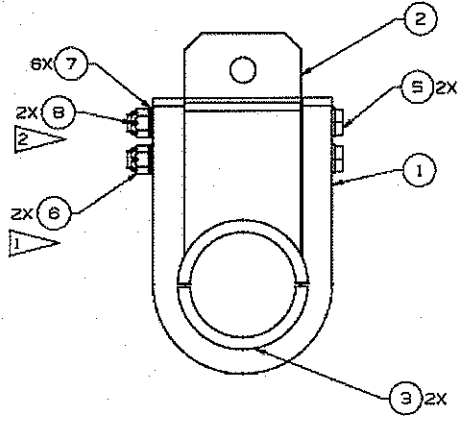

Figure 10
12. Using Figure 10 as a reference, disassemble the U-Hook Assembly, SEG38117120-301. Remove the cotter pin, MS24665-302, item 8 inserted in each castellated nut, AN310C8, Item 6. Remove the fastener, NAS1958C90D, item 5, castellated nut, AN310C8, item 6 and washer, NAS1149E0863R, item 7. Do not allow the U-hook Bushings, SDG38117123-001, item 3 or the Top Support Block, SDG38117122-001, item 2 to fall after removing the two (2) fasteners. Place the fasteners, nuts, washers, and cotter pin in a plastic bag. Mark on the plastic bag to identify the location from which the hardware was removed.
20.1 Using Figure 10 as a reference, disassemble the U-Hook Assembly, SEG38117120-301. Remove the fastener, NAS1958C90D, item 5, castellated nut, AN310C8, item 6 and washer, NAS1149E0863R, item 7. Do not allow the U-hook Bushings, SDG38117123-001, item 3 or the Top Support Block, SDG38117122-001, item 2 to fall after removing the two (2) fasteners.
20.3 Reassemble the U-hook components. Reinstall the cotter pin, MS24665-302, item 8 inserted in each castellated nut, AN310C8, Item 6 per Figure 10. .